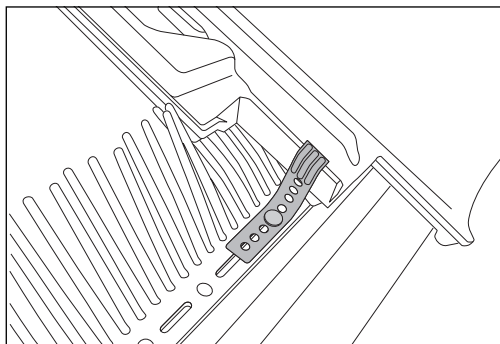

Fig 38 - Eaves clip and comb filler
- 2 The eaves course of tiles should be fixed by clipping. Purpose made eaves clips are nailed to the fascia board and located over the side lock of the eaves course tile (Fig 38).